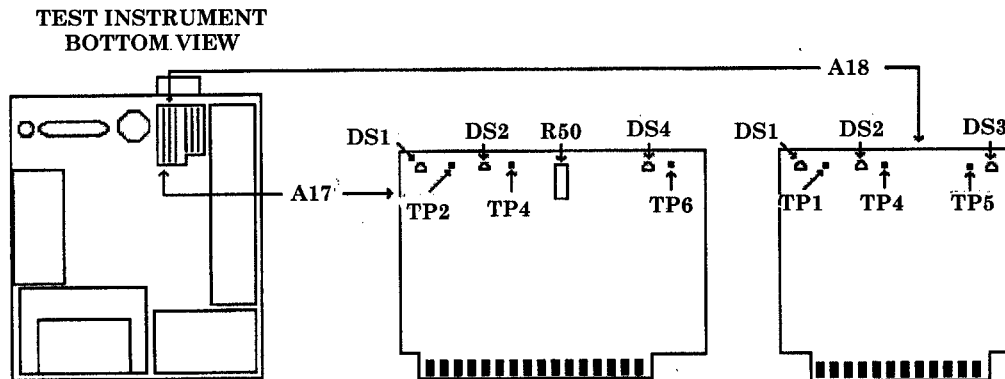

Figure 34. A17 & A18 Boards
- (23) Connect multimeter **HI** to A17TP4 (fig. 34) and multimeter **LO** to TI chassis.
- (24) The 20 V indicator A17DS2 (fig. 34) (yellow LED) should be lit.
- (25) Adjust A17R50 (fig. 34) for a multimeter indication of  $20.000 \pm 0.001$  V dc (R).
- (26) Connect multimeter **HI** to A17TP6 (fig. 34) and multimeter **LO** to TI chassis.
- (27) The 12 V indicator A17DS4 (fig. 34) (yellow LED) should be lit.
- (28) Multimeter should indicate  $12.25 \pm 0.30$  V dc.
- (29) Connect multimeter **HI** to A17TP2 (fig. 34) and multimeter **LO** to TI chassis.
- (30) The 5.2 V indicator A17DS1 (fig. 34) (yellow LED) should be lit.
- (31) Multimeter should indicate  $5.2 \pm 0.05$  V dc.
- (32) Connect multimeter **HI** to A18TP5 (fig. 34) and multimeter **LO** to TI chassis.
- (33) The -5.2 V indicator A18DS3 (fig. 34) (yellow LED) should be lit.
- (34) Multimeter should indicate  $-5.2 \pm 0.05$  V dc.
- (35) Connect multimeter **HI** to A18TP1 (fig. 34) and multimeter **LO** to TI chassis.
- (36) The -40 V indicator A18DS1 (fig. 34) (yellow LED) should be lit.
- (37) Multimeter should indicate  $-39.8 \pm 0.4$  V dc.
- (38) Connect multimeter **HI** to A18TP4 (fig. 34) and multimeter **LO** to TI chassis.
- (39) The -10 V indicator A18DS2 (fig. 34) (yellow LED) should be lit.
- (40) Multimeter should indicate  $-10.0 \pm 0.1$  V dc.